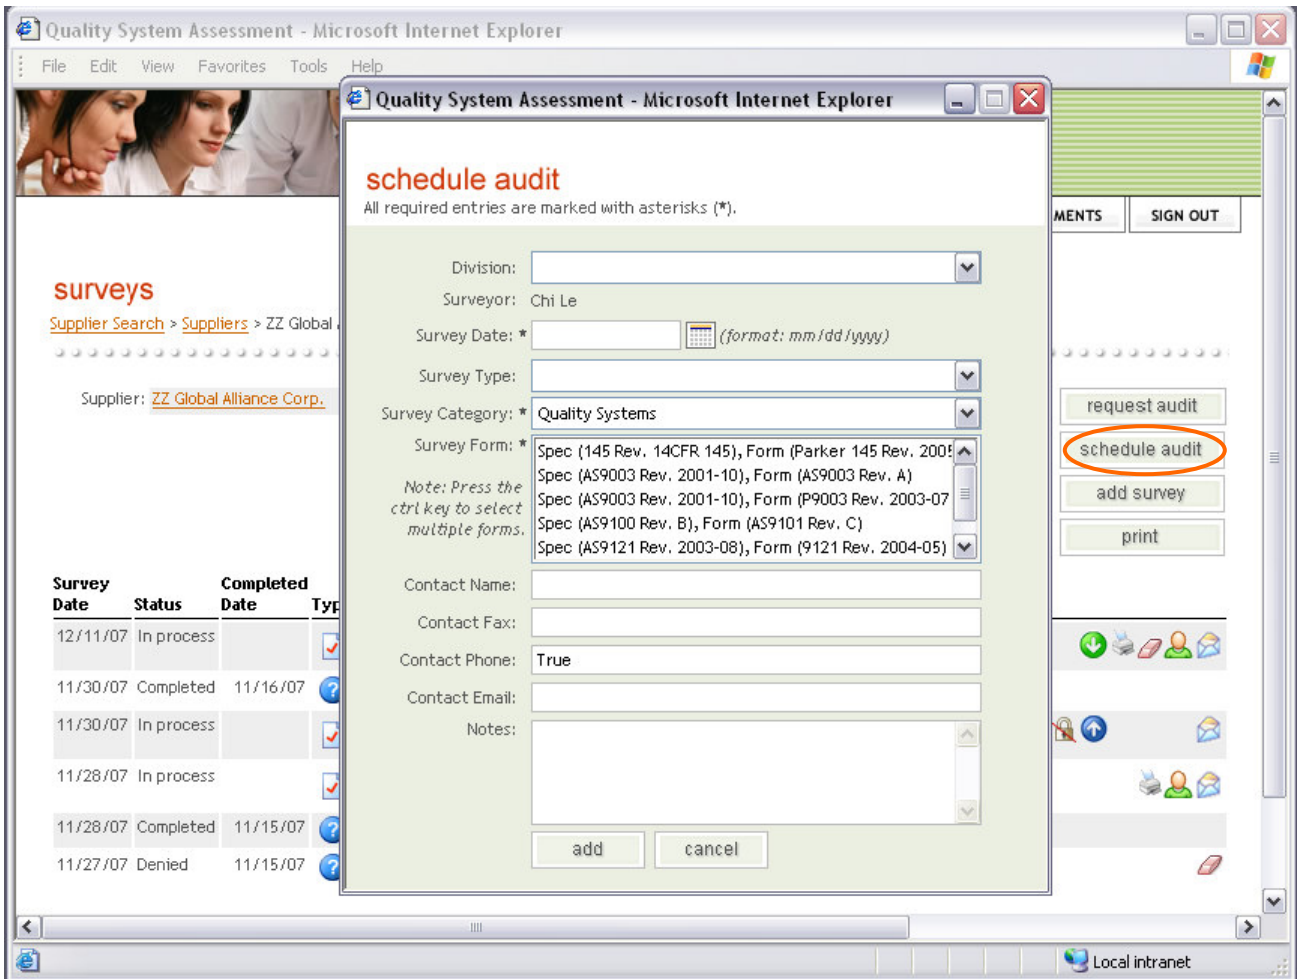

Figure 34 – Schedule Audit
- At the "surveys" page, click on the "schedule audit" button. A popup form will appear on the screen (figure 34).